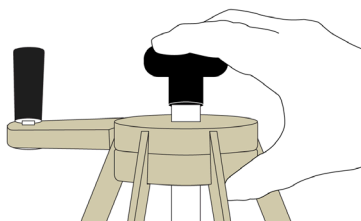

FIGURE 3: OPENING AND CLOSING THE SWIFT
3. Push down on the upper bearing hub to open the swift's arms (Figure 3). If the swift is fully closed, you may need to push the adjustment T-knob down and gently pull the arms apart. Once you get the swift started, it will open easily.